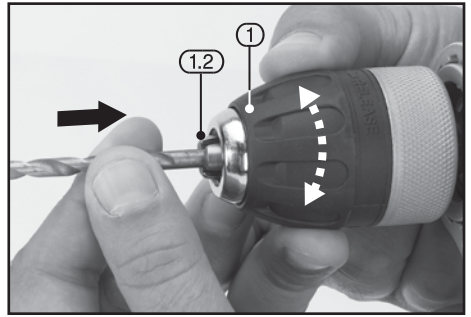

FIG.5
9.1 INSTALLING AND REMOVING DRILL BITS – FIG.5
- Whilst gripping the base of the chuck (1), turn the chuck end anti-clockwise to open up the chuck jaws (1.2).